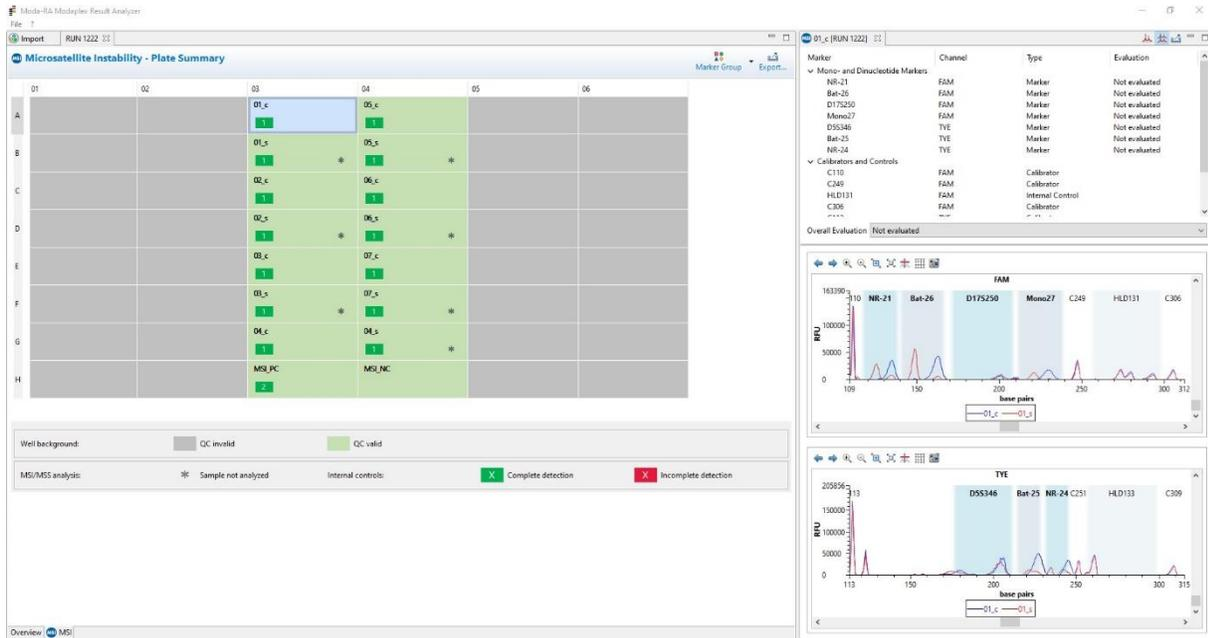

Figure 9: Data analysis of sample wells (the blue numbers show the different sections).
3. By clicking on the marker in the marker panel (Section #1, Figure 9), an automatic zoom into this marker occurs. You can start evaluating each marker immediately.